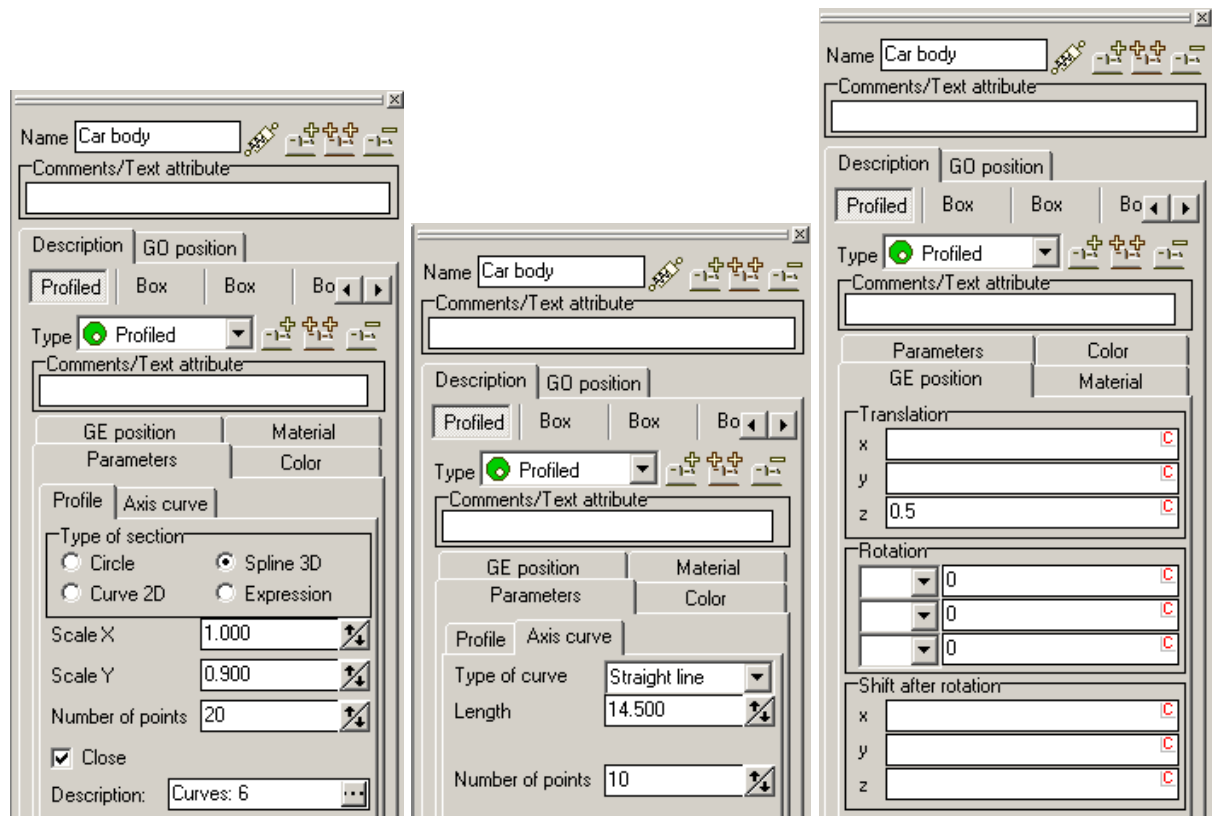

Figure 2.12. Car body image parameters
4. Select the **Description/Parameters/Profile** and set **Scale Y** to **0.9** (Fig. 2.12, left).